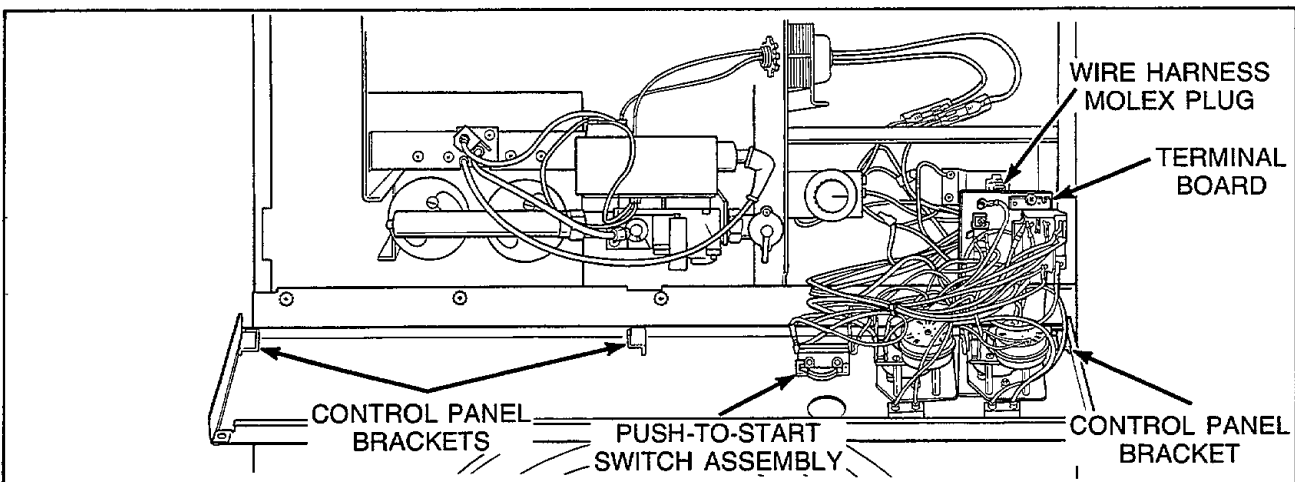

Figure 2
- c. Lift control panel off brackets, *Figure 2*.
- d. Disconnect wire harness at the Molex plug, *Figure 2*.
- b. Remove two Phillips head screws holding start switch assembly to control panel, *Figure 2*.
3. **TERMINAL BLOCK OR BOARDS** (Refer to Figures 2 or 3)